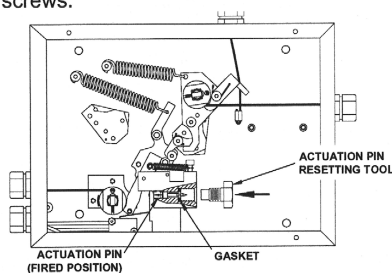

Figure 17.
4. Before installing the Nitrogen Cartridge it is necessary to make sure that the Actuating Pin is moving freely. Insert the Actuation Pin Resetting Tool into the threaded hole of the Manifold Mounting Block where the Nitrogen Cartridge is installed. See **Figure 17**.
Step #8: Installing the Nitrogen Actuation Cartridge. (Refer to Figure 17 through 19.)